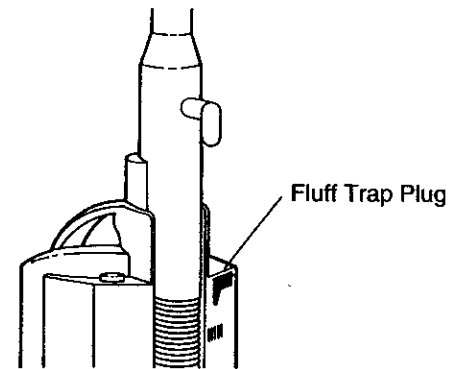

FIGURE 21
- Grasp and pull the tab on the Fluff Trap Plug to open and expose the Fluff Cleanout opening. (Figure 21) Remove all fluff from this screened area then close the Plug and ensure that it is fully assembled.